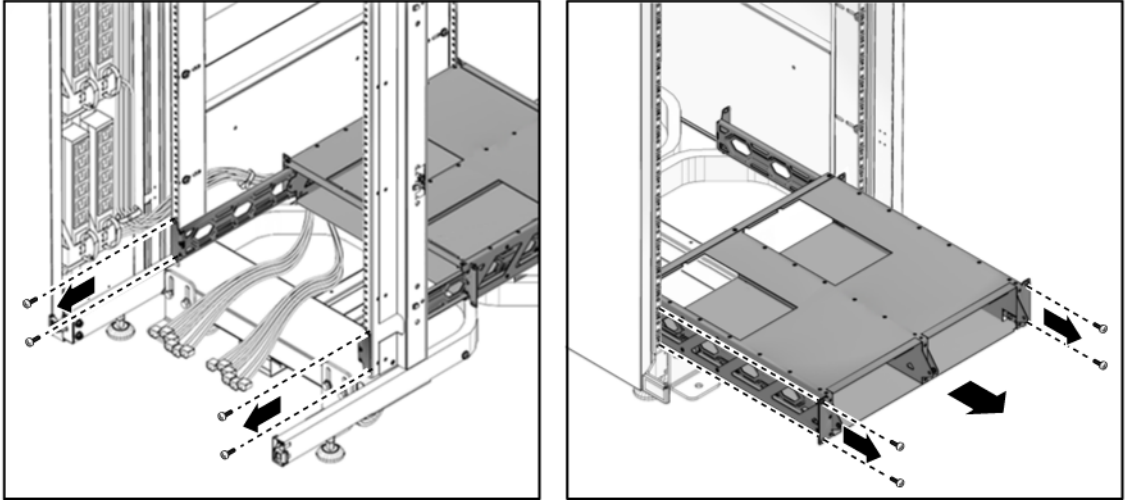

FIGURE 2-14 Removing the Modular Power Supply Carrier
- a. Loosen the thumb screws at the front of the PDM (FIGURE 2-14).
2. Remove the four screws at the back of the MPS (FIGURE 2-14).